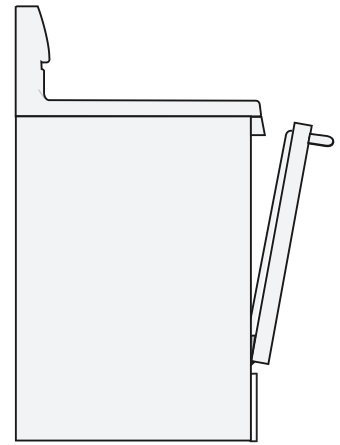

Fig. 2
2. Position cookware in oven. **Leave oven door open** at broil stop position when broiling (See Fig. 2).